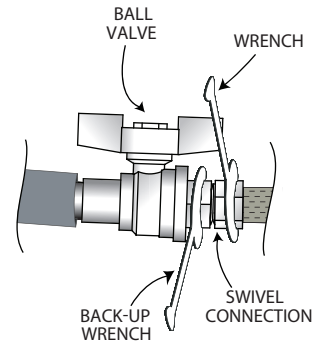

Fig. 22 — 42SU Unit Riser to Unit Installation (Tighten Swivel Connections)
5. Use a wrench to tighten the swivel connections. Use a backup wrench to hold the riser ball valve stationary to prevent it from bending or twisting during installation as shown in Fig. 22. Be careful not to over-tighten swivel connections.